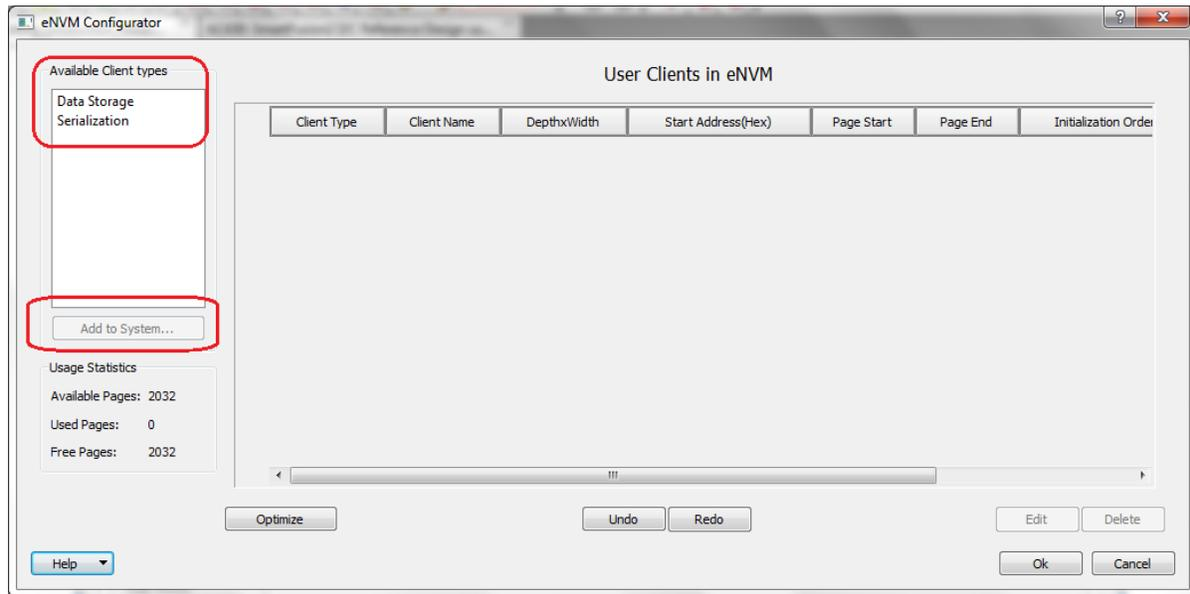
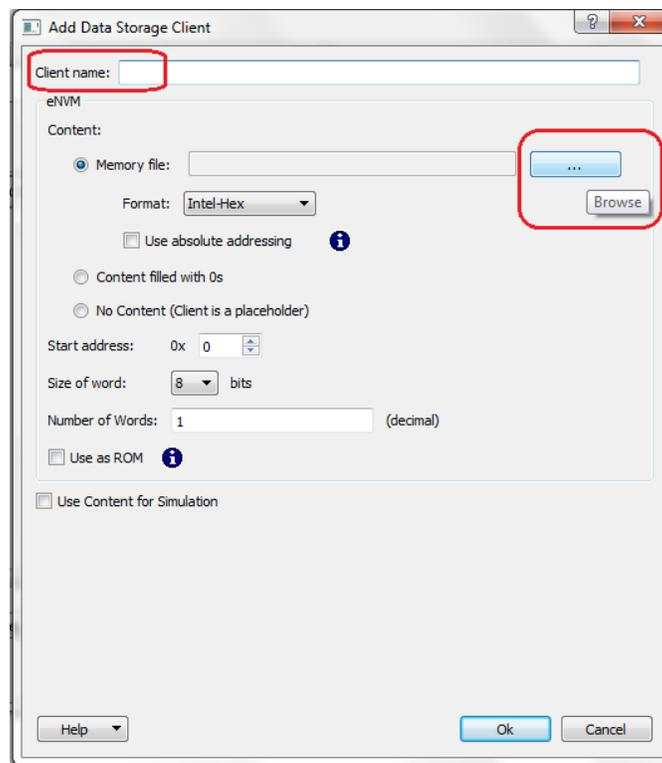

Figure 28 • eNVM Configurator
Figure 29 • Add Data Storage Client Window
3. Double-click **eNVM**. The **eNVM Configurator** window is opened as shown in Figure 28.
4. Select **Data Storage** under **Available Client Types** tab (see Figure 28) and then click **Add to System**. This opens **Add Data Storage Client** window, as shown in Figure 29.